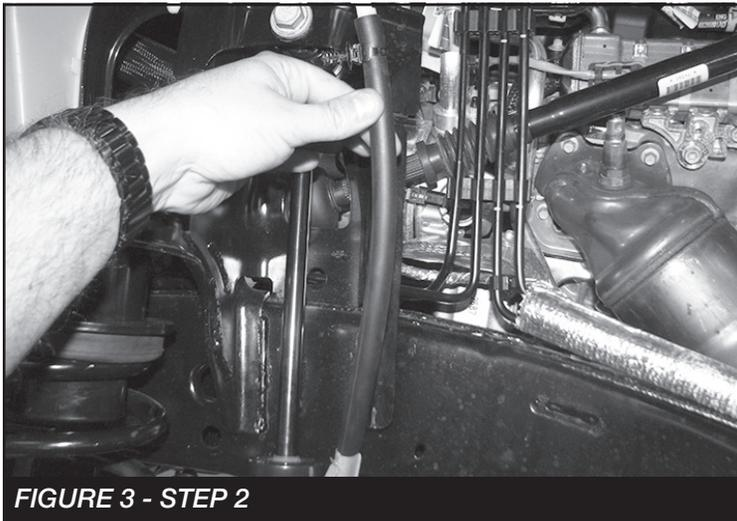

FIGURE 3 - STEP 2
2. On both the Driver and Passenger side, unbolt the front brake line brackets from the frame and the link arm. Save all hardware. **SEE FIGURES 1-2** On the driver side unclip the differential breather hose from the upper coil spring mount. **SEE FIGURE 3**